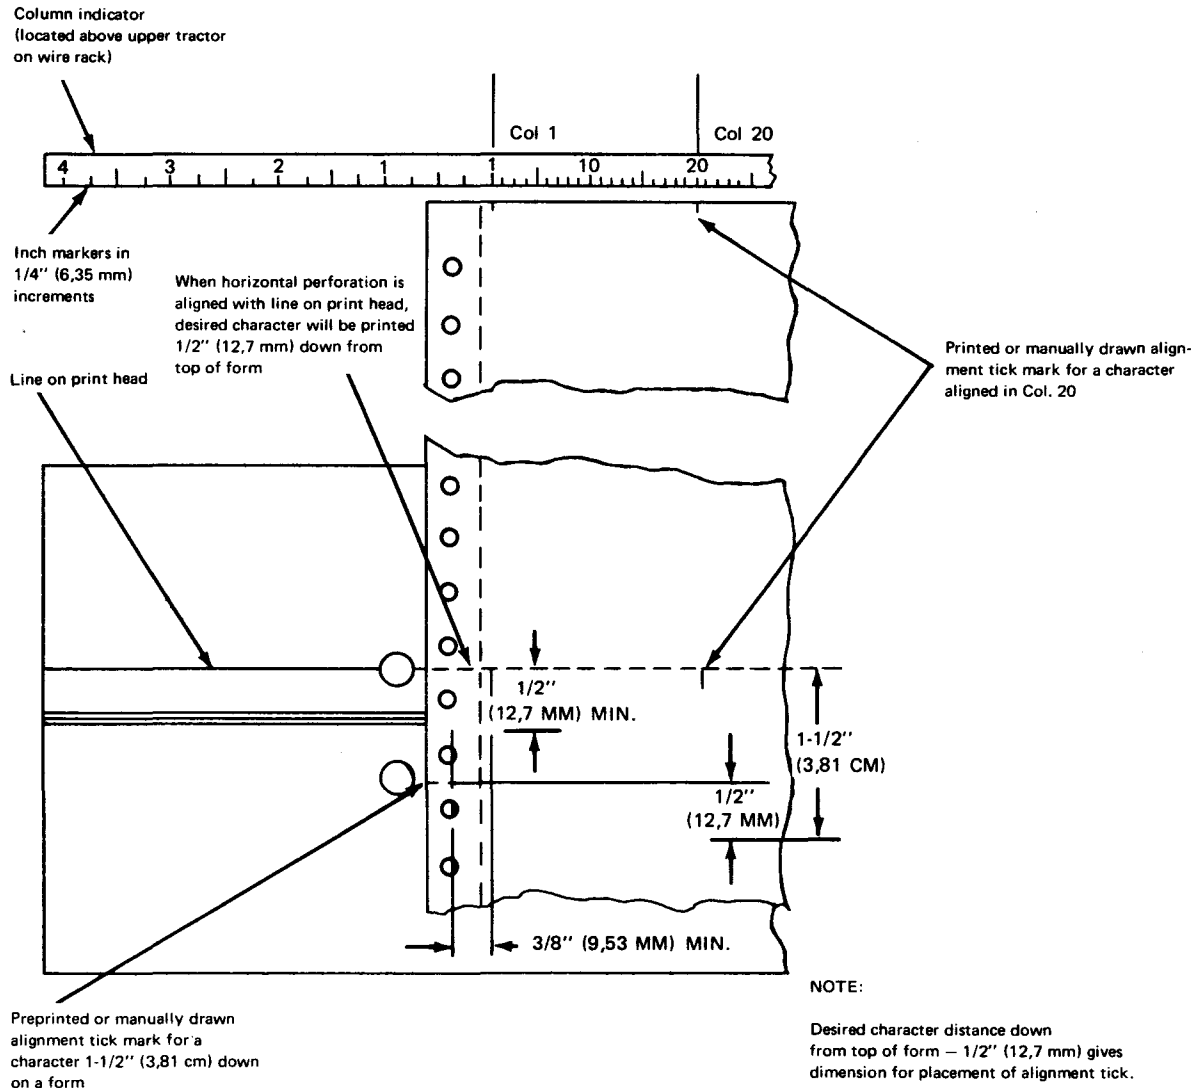

Figure 5-54. Placement of Form Alignment Ticks at Column Indicator
- a. Adjust the upper left tractor on its shaft until the column indicator vertical tick mark on the form corresponds to the proper column on the column indicator (Figure 5-54).